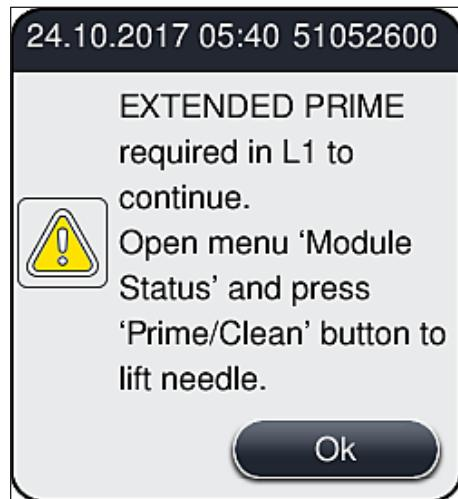

Fig. 100
2. Take note of the information message that follows (→ Fig. 100) and acknowledge with the Ok button.